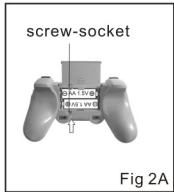

Fig 2A
1. Open the cover of battery case locates in the back of controller, inserts 1 pc of 3.7V batteries into the battery case, and then screw the cover (Fig 2A).